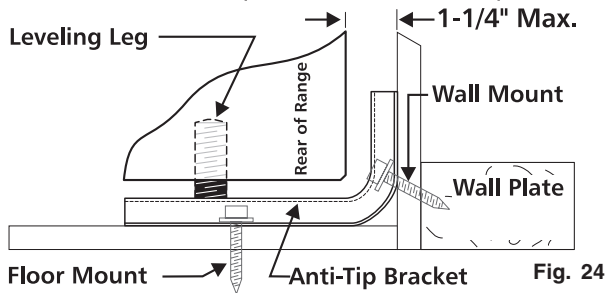

Fig. 24
- 1. Locate the Bracket Using the Template** - (Bracket may be positioned on either the left or right side of the range. Refer to Figs. 24 thru 26 to position the bracket if template is not available). Mark the floor or wall where left or right side of the range will be located. If rear of range is against wall or no further than 1-1/4" from wall when installed, you may use the wall or floor mount method. If molding is installed and does not allow the bracket to fit flush against wall, remove molding or mount bracket to floor. For wall mount (Fig. 24), locate the bracket by placing the back edge of the template against rear wall and the side edge of template on the mark made referencing the side of the range. Place bracket on top of template and mark location of the screw holes in wall. If rear of range is further than 1-1/4" from wall when installed, attach bracket to the floor. For floor mount (Figs. 24 or 25), locate the bracket by placing back edge of the template where the rear of the range will be located. Mark the location of the screw holes shown in template.